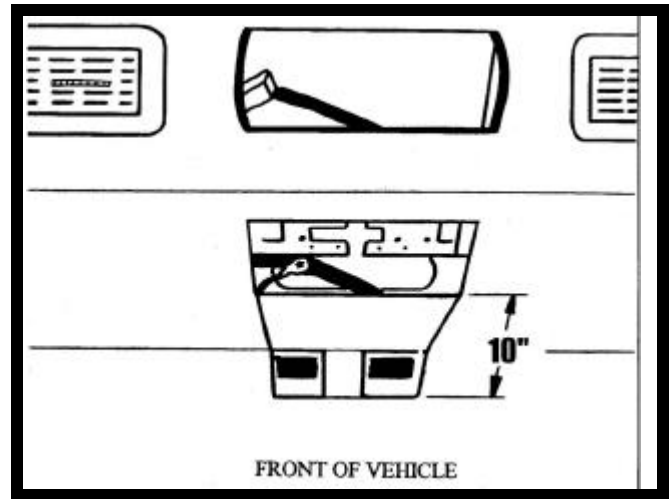

FIGURE 4
6. Carefully trim headliner from the dome light area toward the front of vehicle as shown. See figure 4.